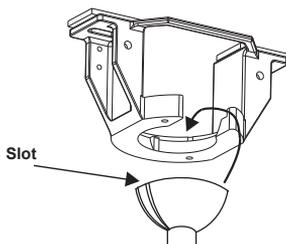

Figure 9
Step 7. Place the downrod ball into the hanger bracket socket. (Fig. 9) And rotate fan and downrod assembly until tab on bracket lines up with slot on ball.